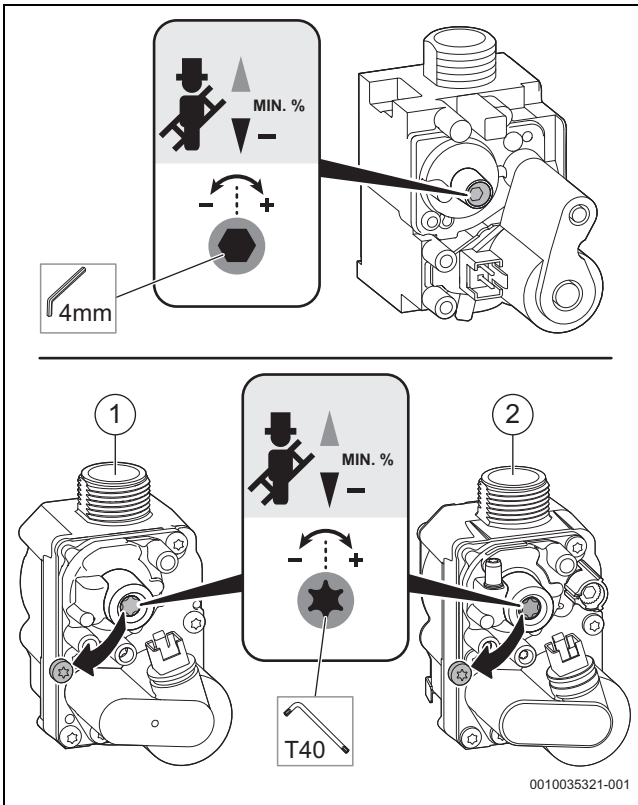

Fig. 87 Setting the CO2 content (above: SIT valve, below Honeywell valves)
- ▶ Remove the seal from the adjusting screw of the gas valve (only gas valve is shown in the below Figure 87) and set the CO2 content for minimum rated output.